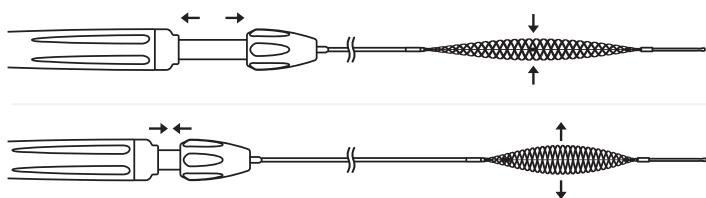

Figure 2 - Handle actuation
3. Check that the Cascade functions properly by actuating the handle and verifying corresponding diameter changes in the braided net (see figure 2).